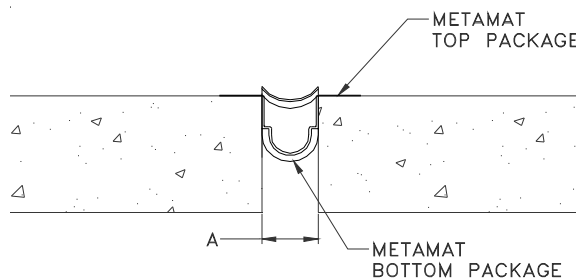

Figure 2
STEP 2. Place the MetaMat top layer, foil side down, into its installed position so that it spans the joint and so that its aluminum foil flanges rest on top of the bottom layer's fabric flanges (Figure 2).